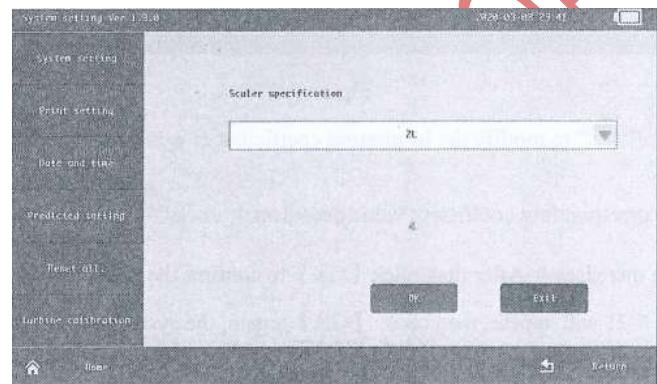

Figure 6-19
- After selecting 【Calibration of calibration syringe】 , the interface will display the "Scaler specification" option (2L or 3L optional), as shown in Figure 6-19.